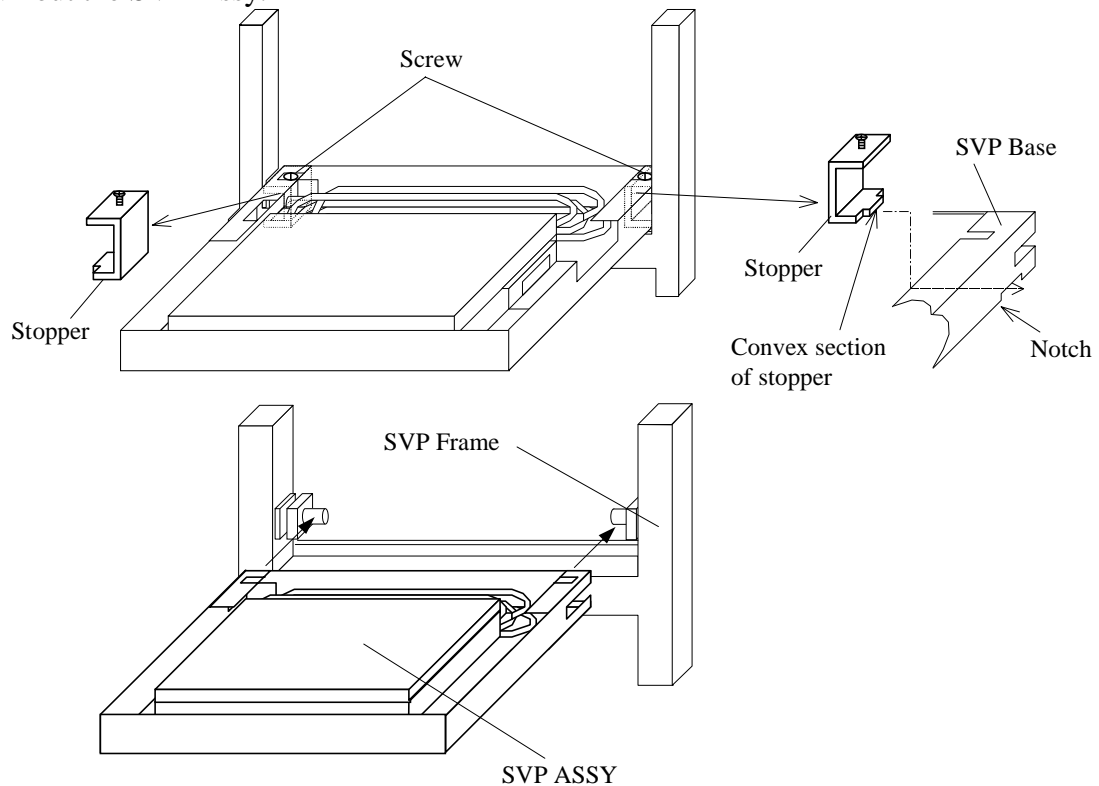

Fig. 3.15-11 Removing and installing the SVP ASSY
- Install the SVP to the SVP ASSY and attach the SVP stoppers with screws. (See Fig. 3.15-11.)